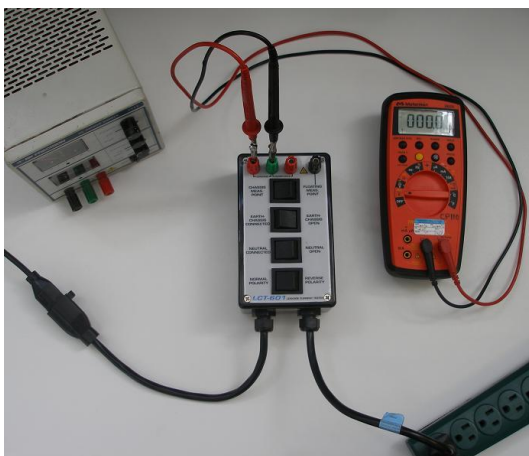

Figure 11 Earth Leakage current
11. See Figure 11 and Table 11 for a Test Setup synopsis.